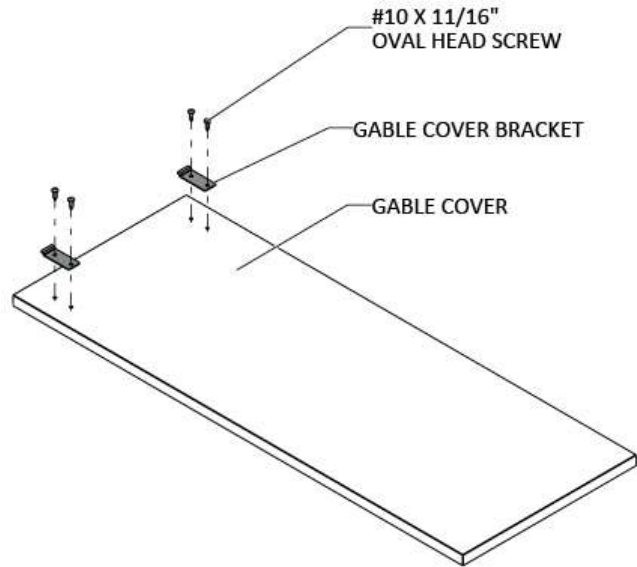

Figure 14
- 36.** Attach the gable cover brackets, using #10 X 11/16" Oval Head Screws into the pre-drilled holes of the gable cover, (Figure 14). Repeat this procedure for each gable cover required.